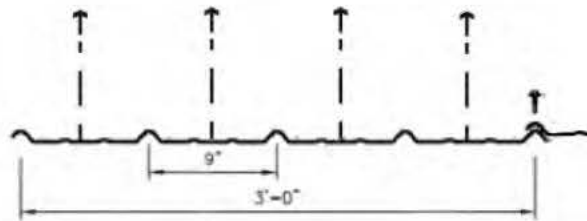

Figure 3
Step 2. The metal roofing is then screwed into the strapping. Screws are positioned on the flats between every ridge and on the ridge only where two pieces of metal overlap, as shown in figure 3.